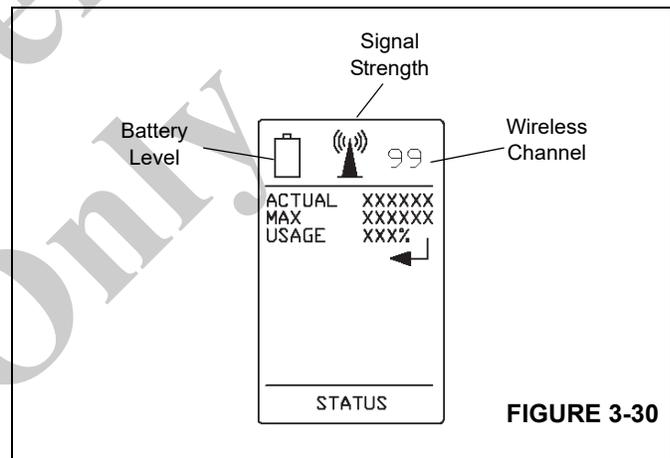

FIGURE 3-30
The LCD Screen (27, Figure 3-29 and Figure 3-30) on the display is used to communicate signal strength, battery level, wireless channel, remote status, and the configuration of the crane based upon which buttons are depressed. RCL information is also displayed to the operator and can be toggled by pressing the Toggle Crane RCL Screen button (3). The following RCL information is available to the operator on the LCD screen: